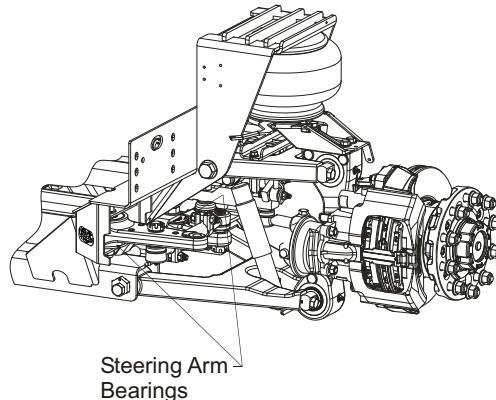

Figure 9
2. Start vehicle engine. Oscillate the steering wheel and observe the motion of the steering arms (Figure 9). The steering arms should not exhibit any noticeable conical motion about their pivot axes.